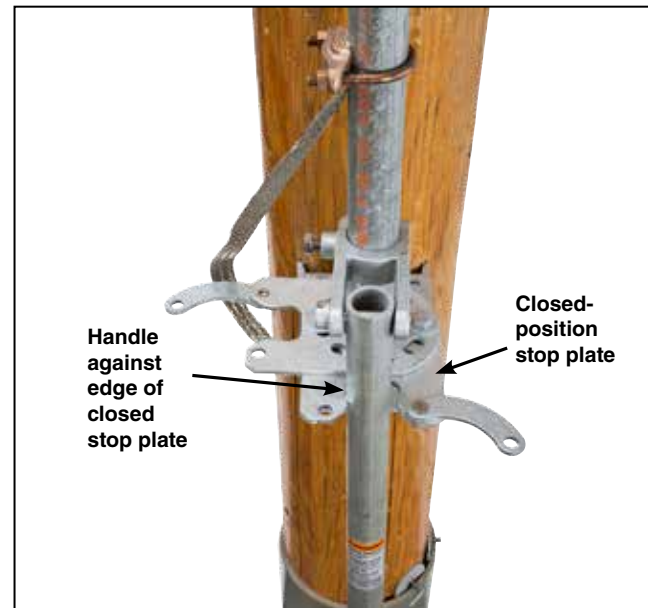

Figure 30. Adjust the closed-position stop plate.
- (b) The stop plate holes are slotted to allow room for adjustment. Position the operating handle in the stop plate and turn the operating handle as far as it will go in the **Closed** position. (Counterclockwise is standard on switches using the rotating operating mechanism.) The handle should be tight against the edge of the stop plate. See Figure 30. Mark the position of the closed stop plate. See Figure 31 (left) on page 21.